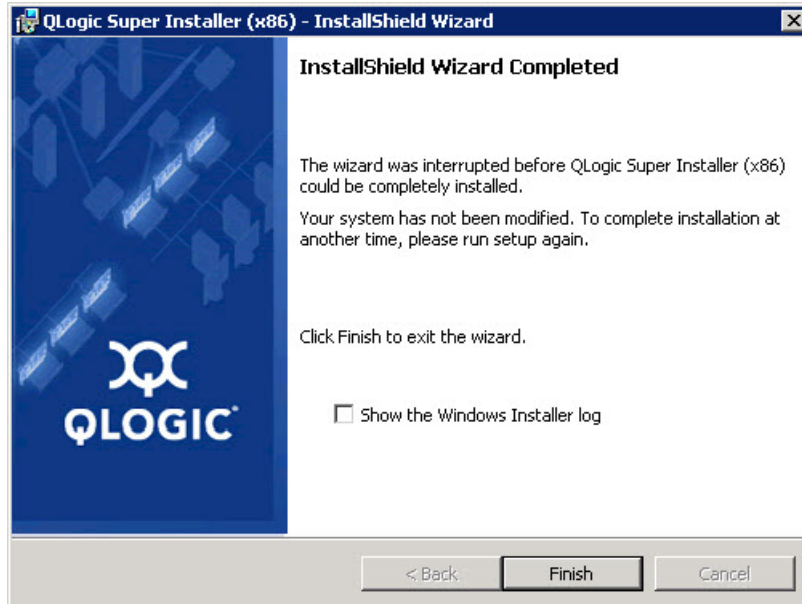

Figure 2-7. InstallShield Wizard: Completed Window
8. When the installation is complete, the InstallShield Wizard Completed window appears (Figure 2-7). Click **Finish** to dismiss the installer.